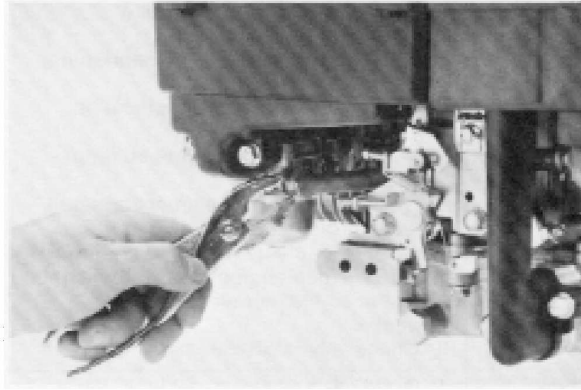

Figure 3-1
1. Drain and remove the fuel tank; refer to Fuel System page 8. The fuel tank is held in place with two screws and is removed by pulling it straight up. Drain the carburetor fuel bowl and disconnect the fuel hose from the carburetor. See Fig. 3-1.
2. Disconnect the fuel hose at the carburetor. Refer to Fig. 3-1.